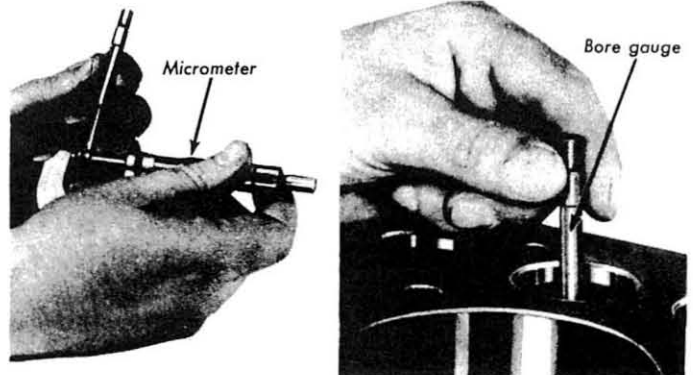

Fig. 7—Checking Valve Guide Wear
(2) **INSPECTION.** Check the valves for burned or warped heads. Measure the stem diameter and replace the valve if the diameter is less than 0.341 inch. Measure the valve guide inside diameter to determine valve to guide clearance. Figure 7 illustrates the method of measuring the valve guide with the telescope gauge and micrometer. Replace the guide if the clearance is greater than the tolerance shown in Table 2 for each engine. Tight guides can be relieved by burnishing (fig. 8). Replace the guide if either end is bellmouthed. Replace warped, burned, pitted, or worn valves.